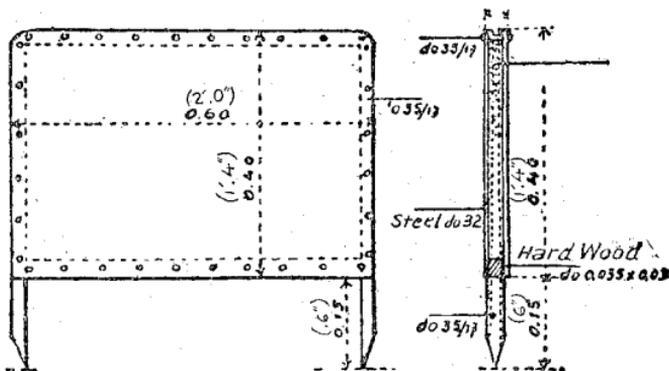

Fig. 152.—Shield of steel and sand.
4. Shield of steel and sand (fig. 152).—Proof against the German bullet at 22 yards is used to increase the protection for riflemen behind a parapet.